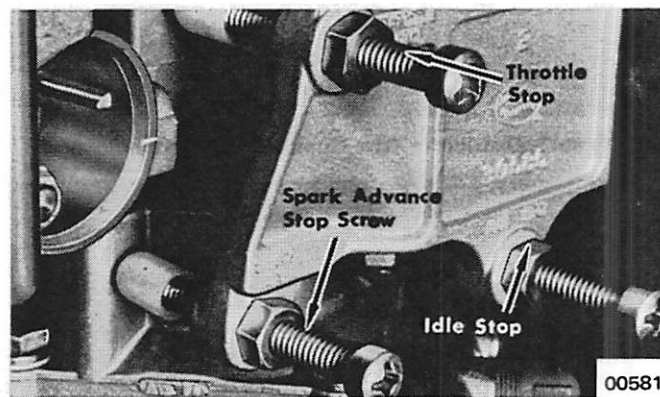

Figure 7. Idle Stop Screw
- k. Retard distributor against "Idle Speed" stop screw. (Figure 7)